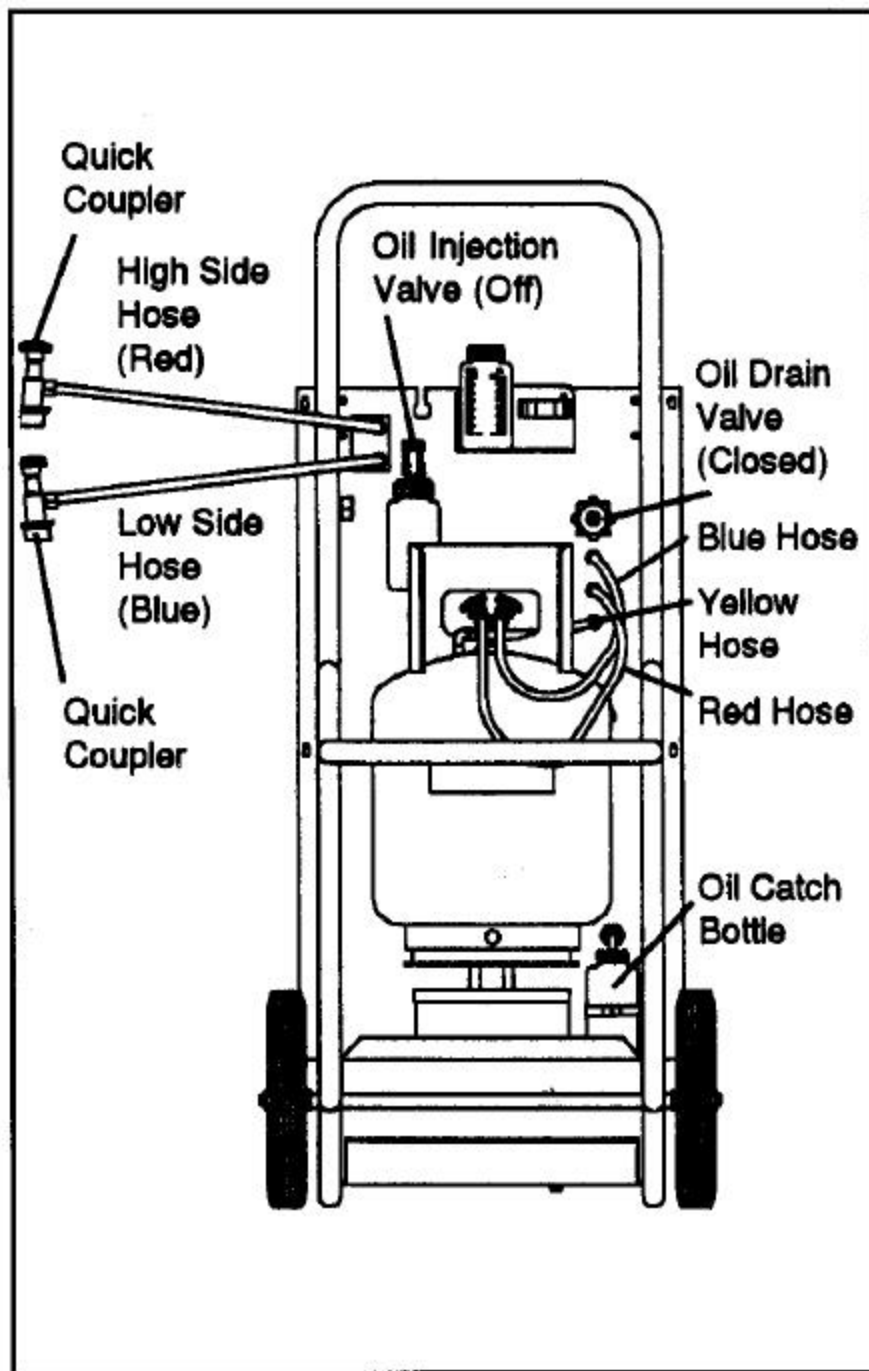

Figure 21-7. Diagram of Hose Connections
1. Attach the unit's red (high side) hose with the Quick Coupler to the high side fitting of the A/C system, then open the coupler valve. Figure 21-7.